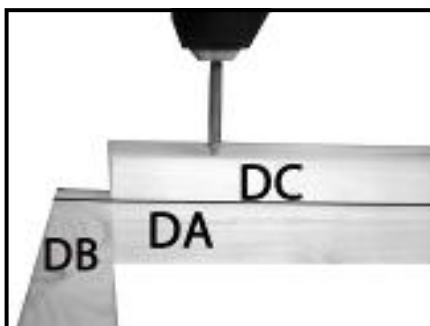

Fig B6
11. Fix to part **DC** to **DA** with 40mm screws (fig B6 &B7) important fix at both ends first ensuring that they stay flush then the screws in between again ensuring that parts **DA** & **DC** are flush as you go.